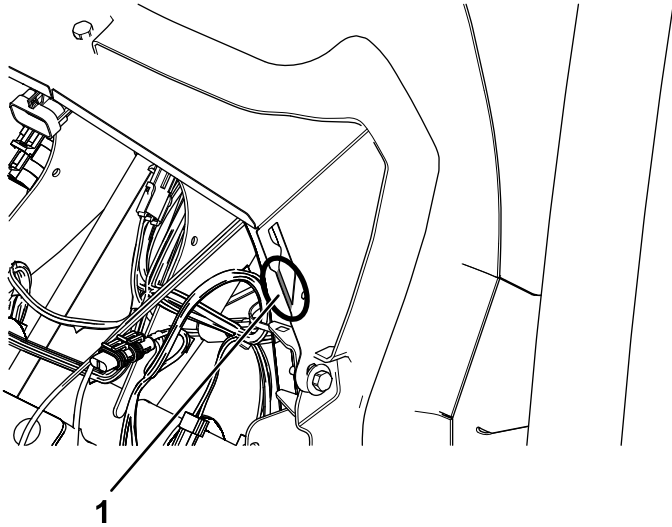

Figure 41
- Using a tin snipper, remove the shipping tang from each side of the water gutter (Figure 41).